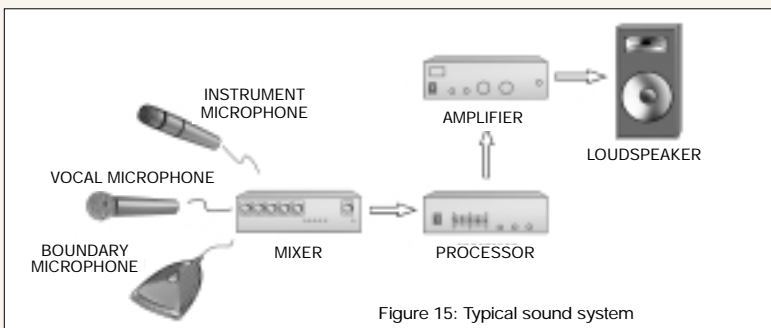

Figure 15: Typical sound system
- Step 2: Using the XLR microphone cables, connect the microphones to the mixer inputs (see figure 15).